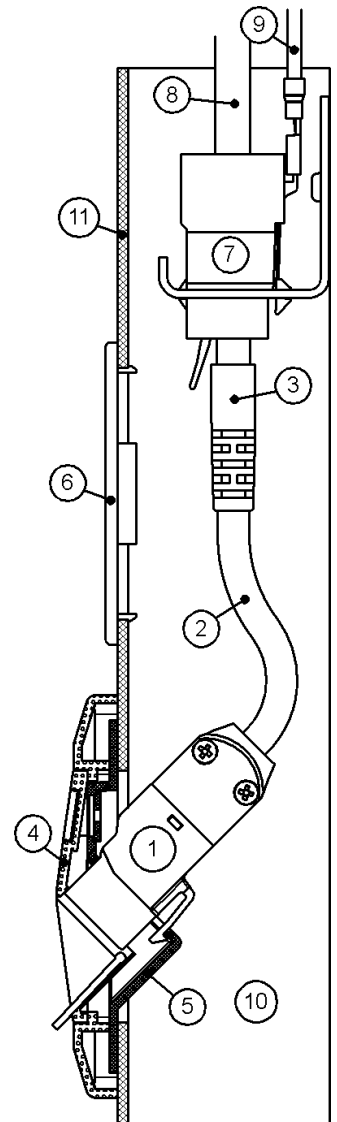
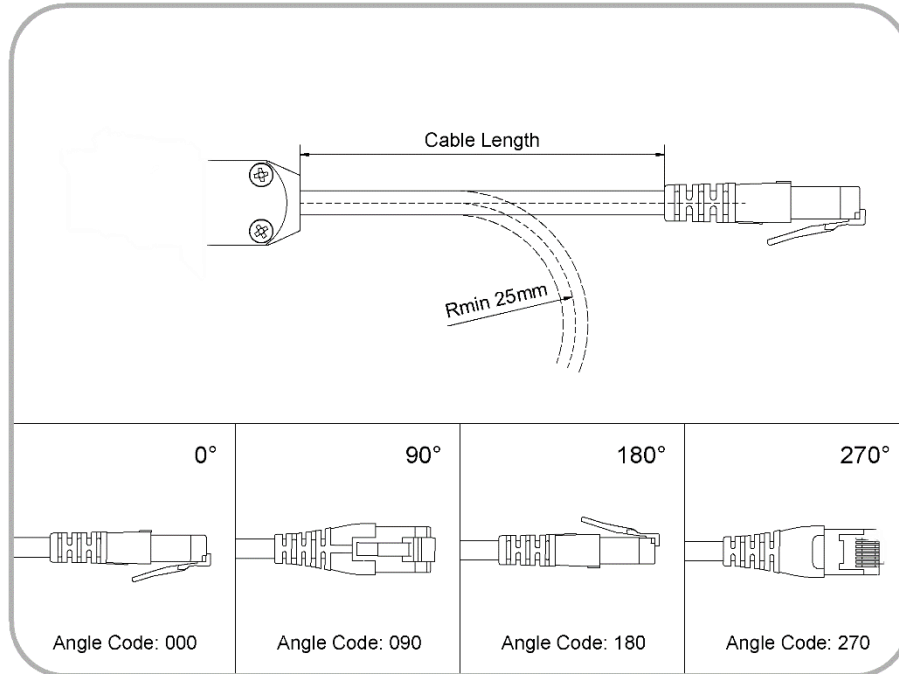

Figure 4 Keystone network isolator in a cable duct
Figure 7. Cable length, as well as angle codes.
Figure 4 shows a typical assembly within a cable duct (10), with cover (11). The Network Isolator EN-66K (1) is shown installed in a Keystone-compatible wall outlet, which usually consists of a support frame (5) and a plastic front panel (4). The RJ45 plug (3) of the Network Isolator is to be inserted into a RJ45 jack module termination (7) at the end of the permanently installed data cable (8). When retrofitting the Network Isolator EN-66K (1) into network channels, the existing RJ45 jack module from the wall outlet can be shifted back within the cable duct (10) and used as the connection to the Network Isolator.
The transmission properties of permanent network installations fitted with EN-66 Network Isolators can be checked with cable certification devices which are suitable for testing electrically isolated cable sections. To be able to conduct such an inspection, the test equipment must be configured in an AC wire-map mode. The entire cable route, including the Network Isolator, can be tested to TIA/EIA-568 Cat 6A or ISO 11801 Class EA as a Channel-Link. Testing of the cable shielding and the conductor resistance is not possible in this mode. If however, these tests are required, or if the quality of the cable route itself needs to be tested (without the Network Isolator), then testing can be performed by bypassing the Network Isolator, and connecting directly to the RJ45 socket ⑦, set back within the cable duct, as indicated in Figure 4.
The length of the flexible cable stub ② (see Figure 4 ) of the EN-66 Network Isolator is available in selected lengths from 30 mm to 10 m (inclusive). Refer to Figure 7, as well as the table in section 10.3. It is recommended that this length be kept to a minimum. When compared to a fixed installed cable, this flexible cable stub may be more susceptible to near end crosstalk (NEXT) and alien crosstalk (AXT). The flexible cable stub itself generates a small, but length-dependent amount of insertion loss (IL).
For flexible cable stub lengths between 30 mm and 500 mm (inclusive), the plug angle can be chosen, easing mechanical constraints in certain assembly configurations, and removing impermissible torsion strains from the cable assembly. Refer to Figure 7. The manufacturing tolerance for the plug angle is  $\pm 20^\circ$ .
When placing orders for EN-66, please specify the exact Order Code (OC). The order number is a hyphenated concatenation of the Article Number (A10068 for EN-66K, or A10069 for EN-66S), the Length Code for the desired cable length (see section 10.3 above), and the Angle Code for the desired plug angle (see Figure 7). For flexible cable stub lengths greater than 500 mm, the EN-66 will always be manufactured with a plug angle of  $0^\circ$ , and the Angle Code can be omitted for such orders.